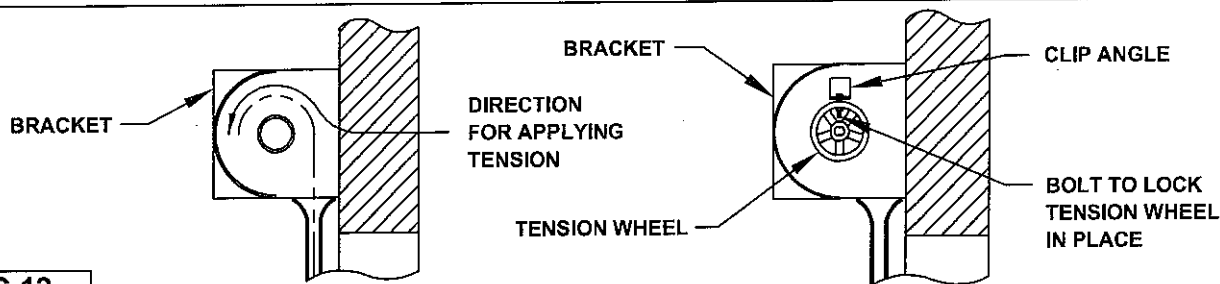

FIG 12
- 3) Rotate the tension wheel, by means of a bar inserted into the tension wheel. See installation information sheet for number of turns. Rotate in direction the curtain normally winds onto the barrel. See FIG 12.